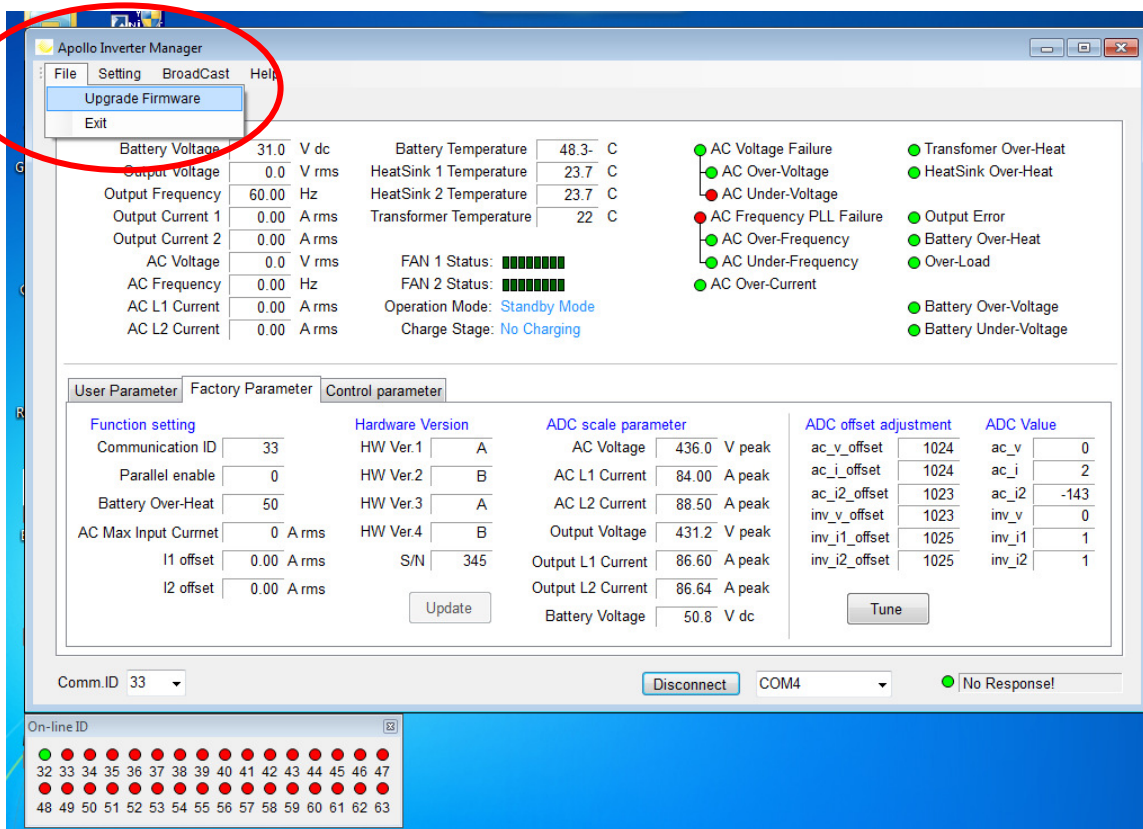

Figure 3
**Step 2** - To upload new firmware to the TSW Inverter, select “Upgrade Firmware” from the File menu bar in the AIM screen as shown in Figure 3: